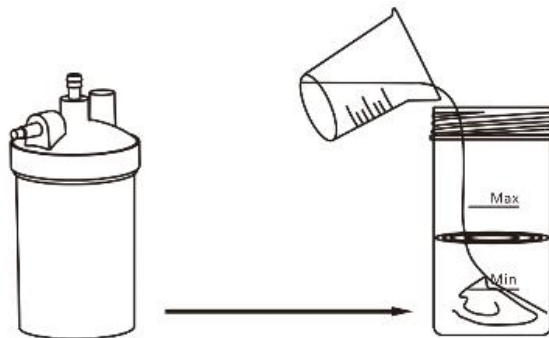

Figure 9
- c. Fill the humidifier bottle with distilled water. Do not exceed max. (Figure 9)